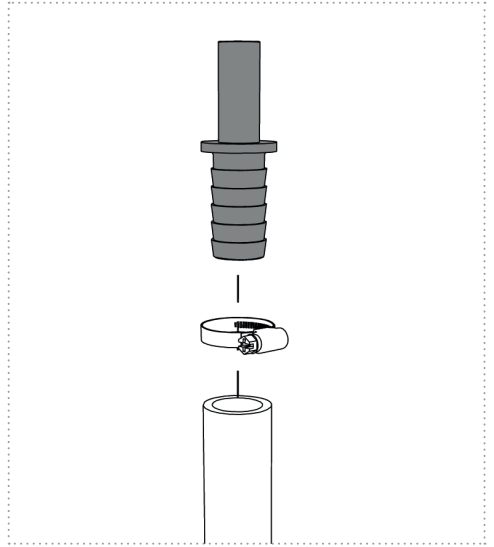
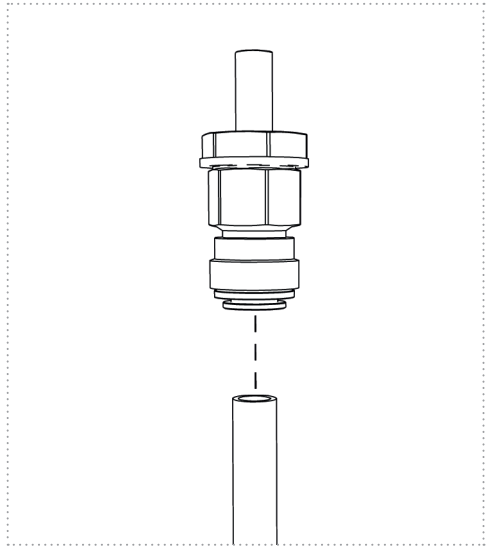

Figure 8
Figure 9b
2. Slide the hose coming from the pump onto the included matching tube to hose stem and fasten it with a hose clamp (Figures 8 and 9a).
**Note:** For using the „water connection adapter 12 or 15mm“ with plug-in system for e.g., UniQuick and Whale System (not included in scope of delivery), observe Figure 9b.
3. Slide the hose departing from the UV unit onto the included matching tube to hose stem and fasten it with a hose clamp (Figures 8 and 9a). Note: For using the „water connection adapter 12 or 15mm“ with plug-in system for e.g., UniQuick and Whale System (not included in scope of delivery), observe Figure 9b.